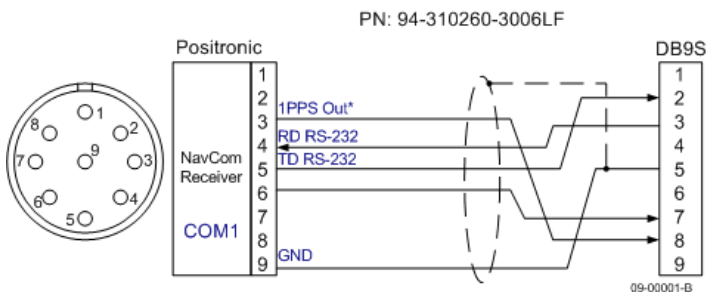
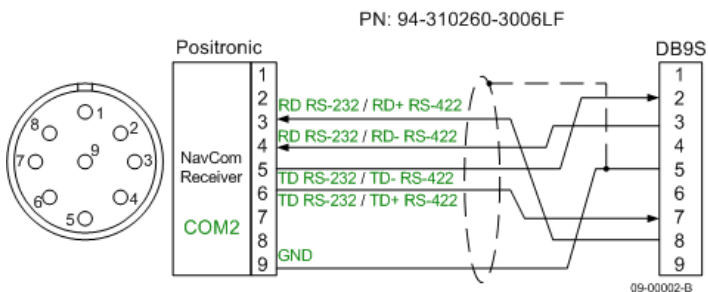

Figure 49: COM1 Serial Cable Pin Assignment
Figure 50: COM2 Serial Cable Pin Assignment
- ✓ Positronic 9-Pin Male to DB9S (RS-232/RS-422/1PPS) (P/N 94-310260-3006LF): constructed as described in Figure 49 and Figure 50.